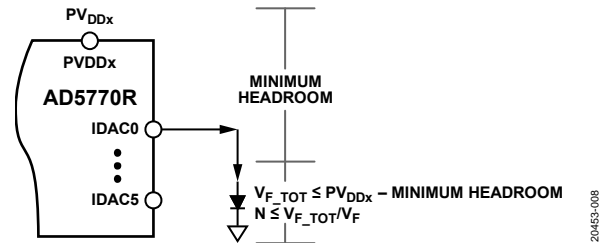
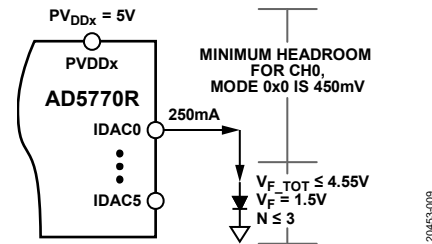

Figure 8. Diode Load Equation as a Function of Minimum Headroom and Supply Voltage
Figure 9. Diode Load Example
For diode loads, use the equations shown in Figure 8 to determine the total number of identical diodes with similar V_F . Using the $IDAC0$ pin, Mode 0x0, and a PV_{DDx} of 5 V (see Figure 9), the total V_F of the diode or diodes in series (V_{F_TOT}) is ≤ 4.55 V. If each diode has a V_F of 1.5 V, no more than three identical diodes can be used as a load. The total number of diodes (N) is not dependent on the current for ideal diodes. Adjustments must be made on the actual V_F value depending on the device being used. Note that the actual V_F value also varies according to the operating temperature. Most diode manufacturers provide the characteristics for this particular parameter on the device data sheets.